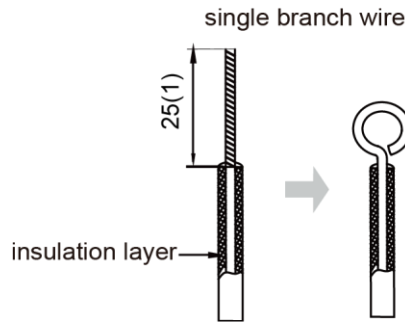

Fig. 5.1.1
(1) The connection of wire (as shown in fig. 5.1.1)